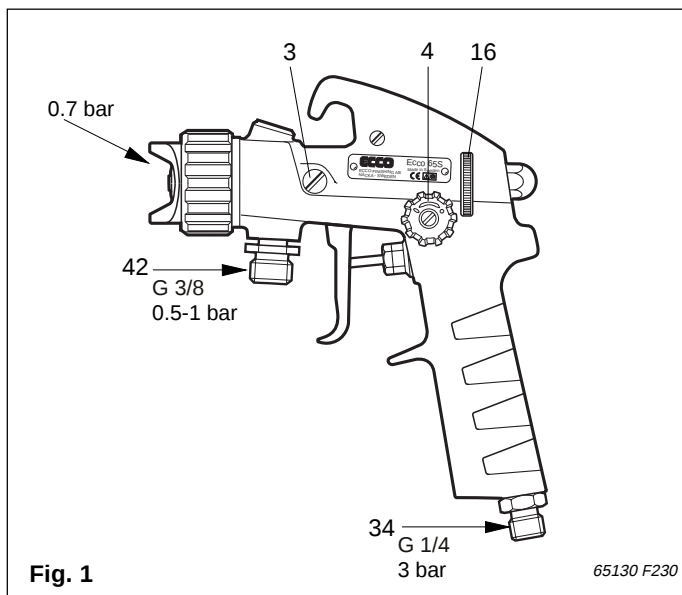

Fig. 1
- Install and operate the spray gun according to Fig. 1.
- In the event of leakage around the paint needle, tightening the packing screws (3) from both sides. After tightening, check that fluid needle is pushed forward by the spring force.
Connections and controls (see Fig. 1)